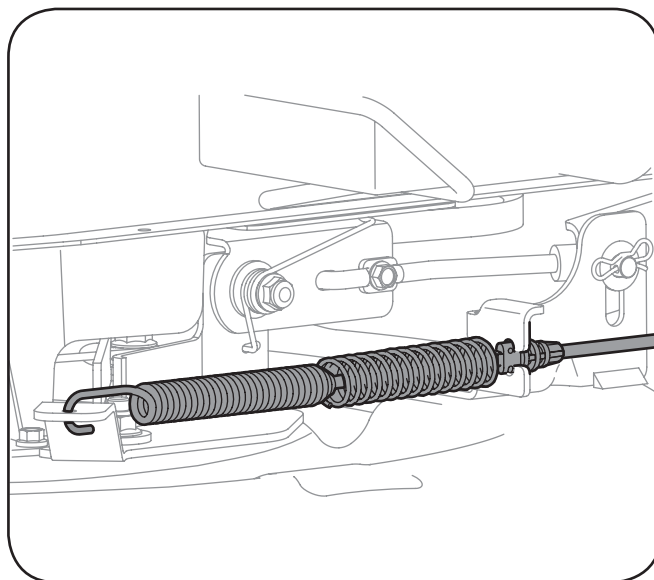

Figure 7-4
8. Carefully remove the PTO cable from the rear of the cutting deck. Remove the spring from the deck idler bracket. See Figure 7-4.